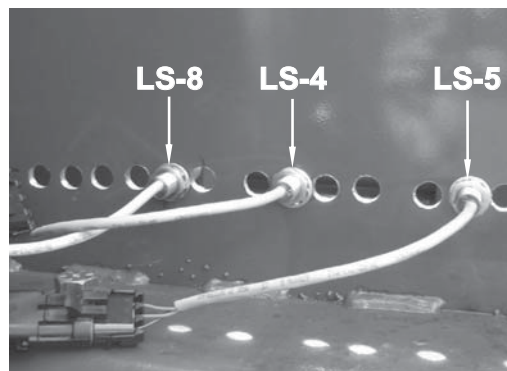

Figure 101 - Twine Needle Yoke in Home Position
1. Ensure LS-5 (Plunger Return Switch) is properly adjusted (see Figure 101).
LS-5 signals the plunger to return at the end of its extend stroke. LS-5 (see Figure 101) also signals the knotter to begin its cycle.
1. Unplug LS-5. see Figure 101
6. Plug in LS-5 (see Figure 101).
4. Move LS-8 approximately 12 inches forward of LS-5 (see figure 101 page 50).